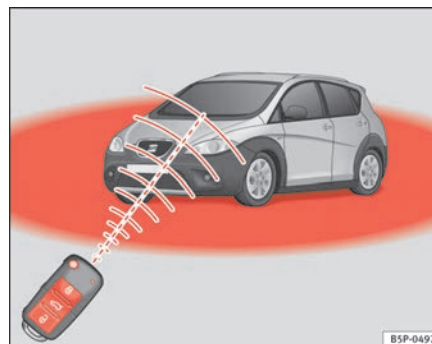

Fig. 64 Range of the remote control:
- The remote control functions only when you are in range ⇒ page 100, fig. 64 (red area).